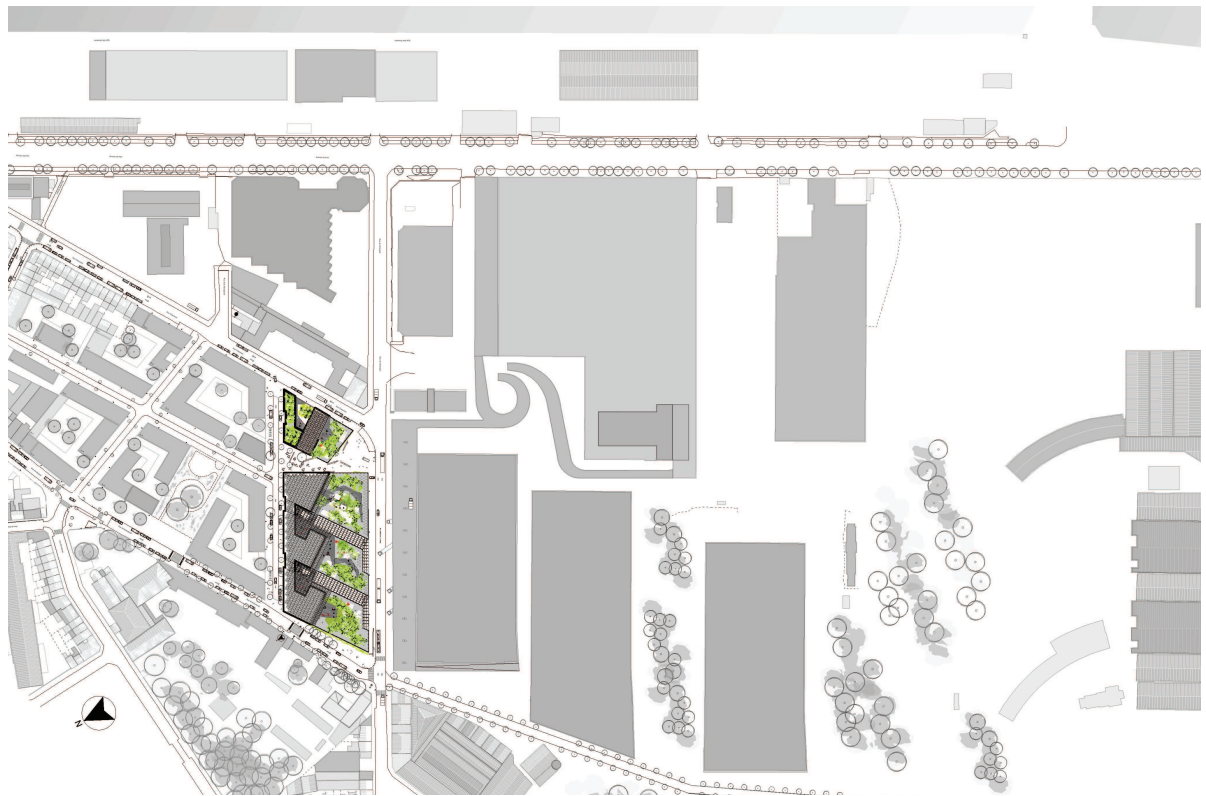

FIG 1: SITE PLAN
*Located on a long-abandoned and polluted 4-hectare industrial site near the city center, BRUSSELS GREENBIZZ is part of a large-scale 14-hectare urban development called TIVOLI, publicly funded by European FEDER funds and the SDRB (Société de Développement pour la Région de Bruxelles-Capitale). This sustainable neighborhood includes both housing (+/-450 units, on site end 2014) and economic facilities in which GREENBIZZ (12.000sqm) holds the pivotal role (FIG 1.).*